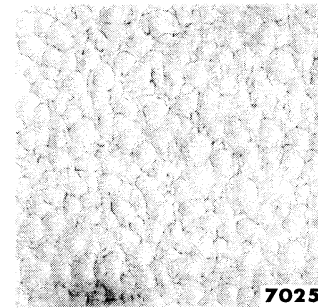

Fig. 28—Orange Peel
(8) **ORANGE PEEL.** Orange peel is a term used to describe an uneven, mottled appearance on the paint surface (fig. 28).